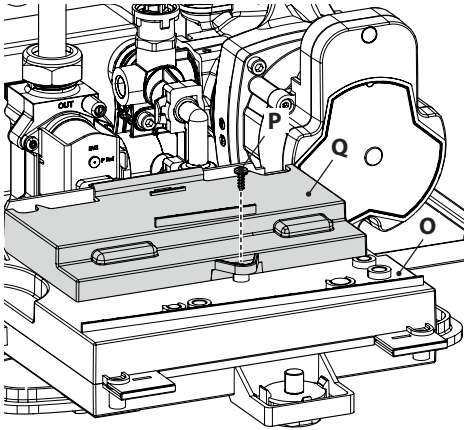

Figure 5.20
- Turn the control panel **O**, as shown in Figure 5.20.
access the electric power supply terminal block, remote and external sensor (Figure 5.20).